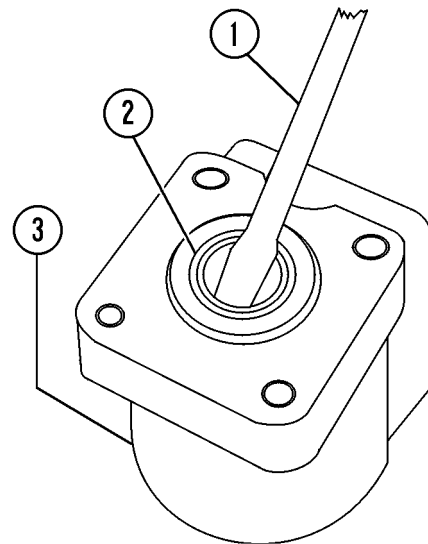

FIGURE 5-6. DUST SEAL REMOVAL
- Remove threaded bushing (4) and ball (3).
***If housing is not vertical when spool and sleeve are removed, pin (9) may slip out of position and trap spools inside housing bore.***
- Remove O-ring (5), kin ring (6) and bearing assembly (7).
- Remove ring (8) and pin (9) and carefully push inner spool out of outer sleeve.
- Press the neutral position springs (10) out of their slot in the inner spool.
- Remove the dust seal (2, Figure 5-6) using a screwdriver. Take care not to scratch or damage the dust seal bore.